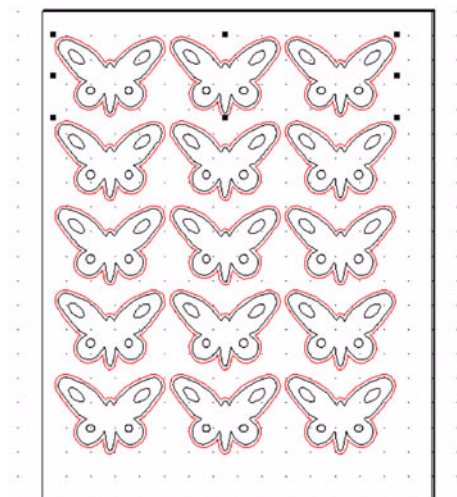

Figure 140
- 5 Click **OK**. The page fills with the image, as shown in figure 140.